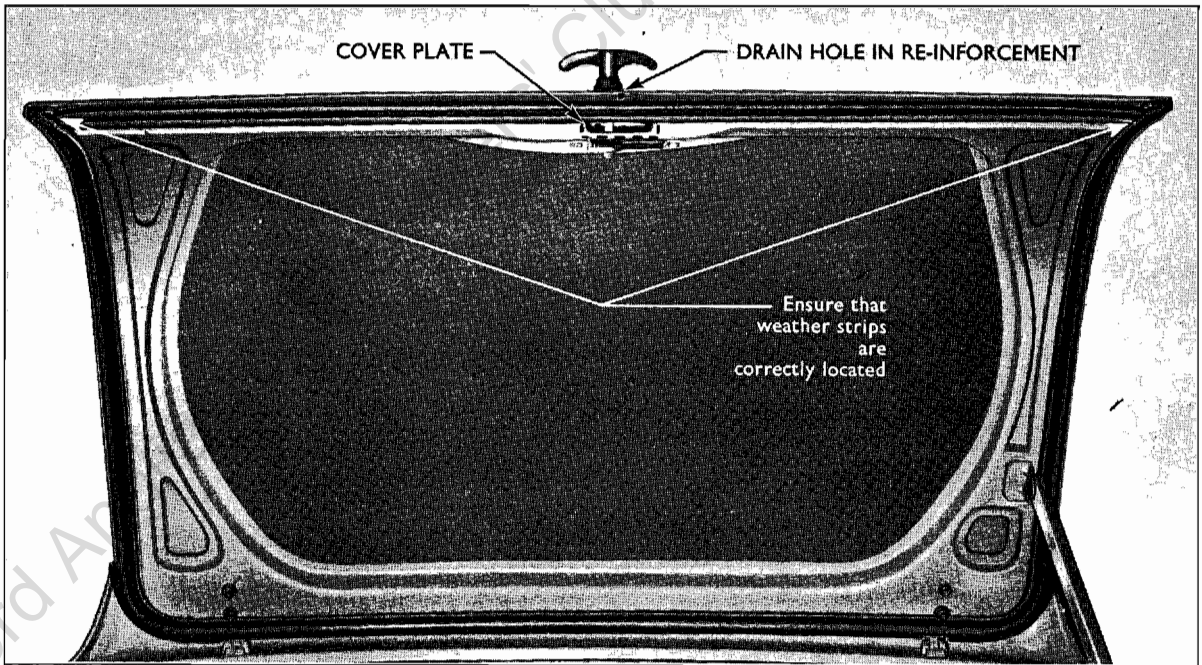

Fig. 11
fitted at the junction of the upper and lower strips (see Fig. 11).
Check that the channels are clear of excess sealer ; if water is leaking through the spot welded joints of the channel, apply a small fillet of sealer along the inside of the channel, taking care not to obstruct the flow of water. Later production vehicles have a drilled hole in the luggage compartment lid reinforcement, and if water is found to be present within the framework a  $\frac{3}{16}$  in. hole should be drilled in the reinforcement (see Fig. 11).
4. On later production models, a cover plate part No. E2854/AA/1 secured by two self-tapping screws has been incorporated on the luggage compartment lid, to cover the lock assembly, and can be fitted to earlier production cars if dust is found to be entering at this point (see Fig. 11).